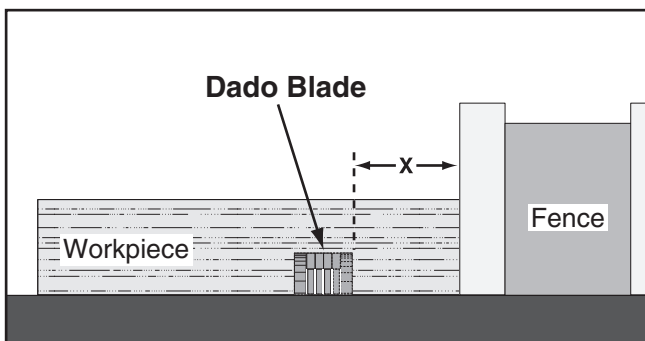

Figure 56. Example of a dado being cut with a dado blade.
3. Adjust distance between fence and inside edge of blade, as shown in **Figure 56** on **Page 40**, to dado length of a workpiece.